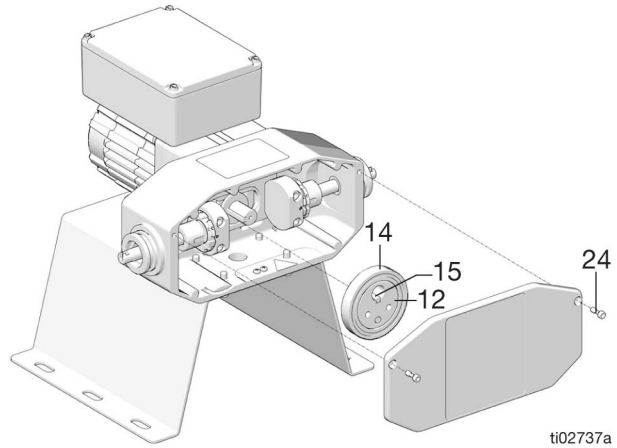

FIG. 30:
6. Remove the cam (12) from the motor shaft (FIG. 30).